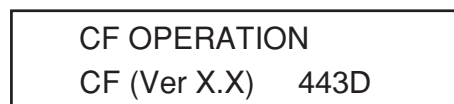

Figure 4-1-1
- d) When the front panel LCD shows a screen illustrated in Figure 4-1-1, press the [ENTER] key. The firmware upgrading starts.
- f) When the firmware upgrading is finished, the main frame automatically restarts. Then, the screen shown in Figure 4-1-1 appears again. Remove the CF card.